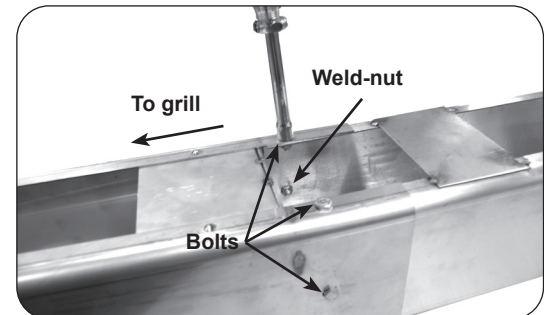

Fig. 26-2 Fasten extension to post
2. From outside the joined post and extension, insert one of the 1/4 X 20"-5/8 bolts (supplied) into each of the five (5) bolt holes and tighten each using a 7/16" socket driver or wrench (see Fig. 26-2).